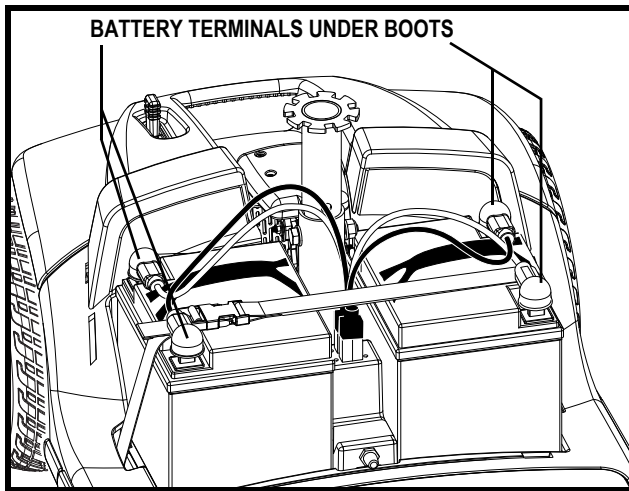

Figure 12. Battery Removal/Installation
3. Disconnect the battery harnesses by depressing the tabs and then pulling them straight up. See figure 12.